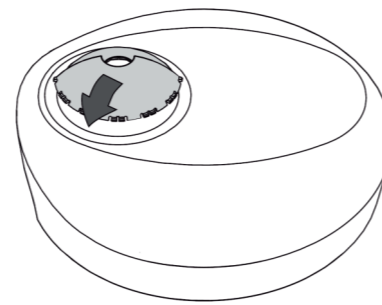

FIG. 20
4.4.2 Fixing lens shield: There is circular hook on the back of the decorative frame and the lens shield is designed with a circular groove. The lens shield can be fitted by joining the groove of lens shield with ist corresponding hook on the decorative frame (See FIG.20).